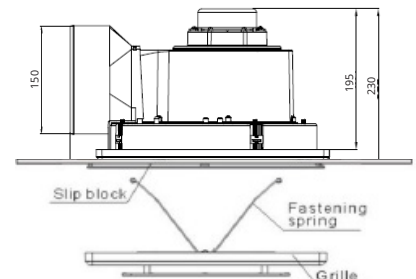

Figure 3: Fix the fan in place and install cover
- Position fan in hole, rotate mounting screws with a screwdriver until slip blocks firmly secure fan onto ceiling plaster. Do not over-tighten (see figure 3)